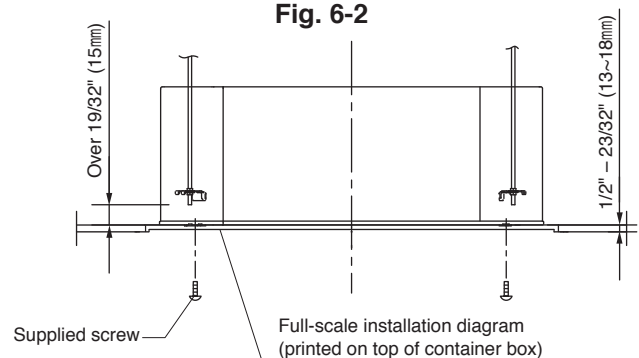

Fig. 6-3
- (1) Be sure to remove the fan protection (4pcs) for transportation before hanging up the indoor unit.
- (2) When placing the unit inside the ceiling, determine the pitch of the suspension bolts using the supplied full-scale installation diagram. (Fig. 6-3)
- (3) The length of suspension bolts must be appropriate for a distance between the bottom of the bolt and the bottom of the unit of more than 19/32" (15 mm) as shown in the diagram. (Fig. 6-3)